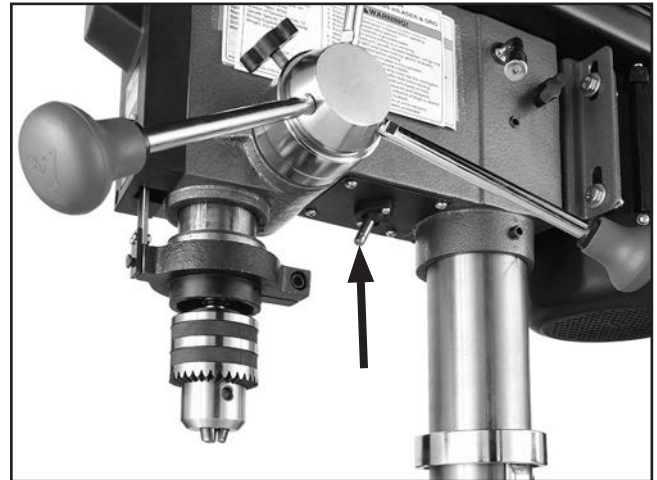
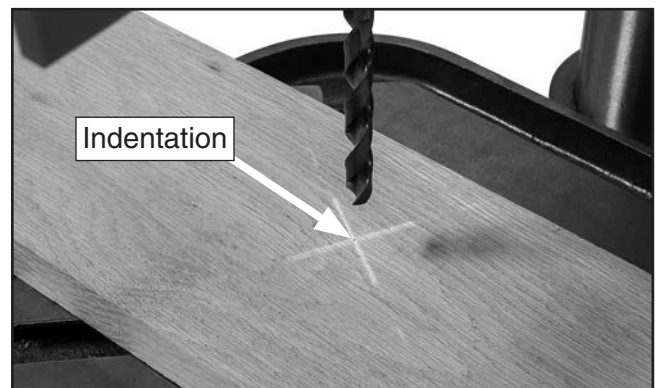

Figure 2. Location of laser.
Figure 3. Crosshairs aligned with indentation on workpiece.
7. Adjust laser (**Figure 2**), positioning it by hand so crosshairs align with indentation you made earlier in surface of workpiece, as shown in **Figure 3**.